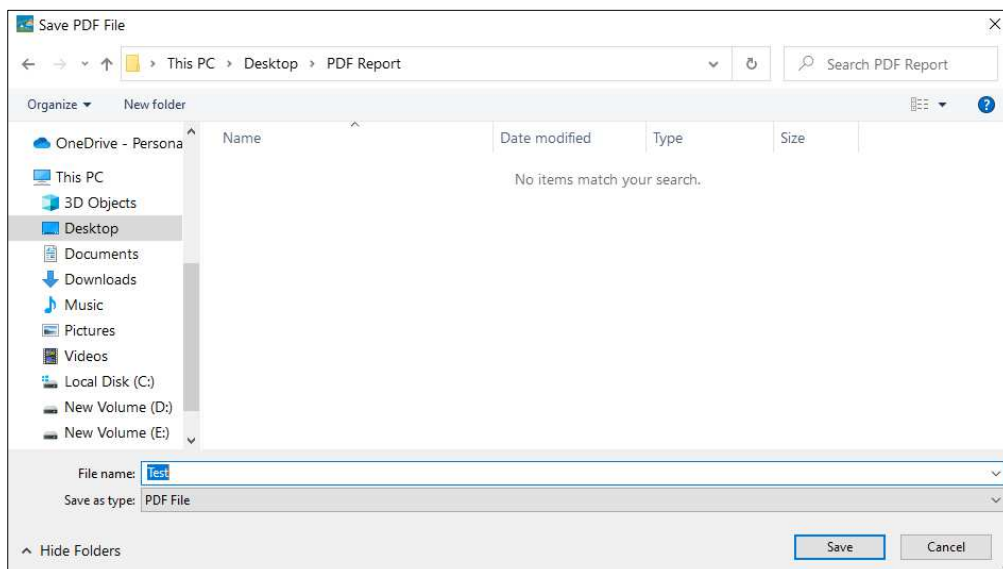

Figure 18 Selecting file location for saving PDF report
- Finally select the “**Generate Report**” button to save the generated PDF report at appropriate file location as shown in figure 18.